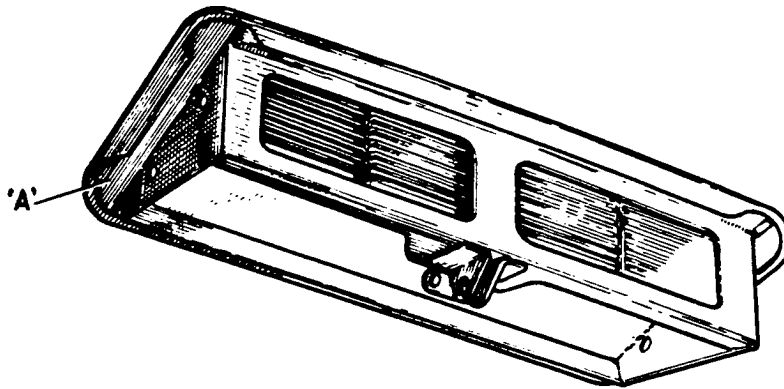

Fig. 1.
- (ii) Remove the two grilles, (shown in Fig.1) starting from the outer ends by drilling into the spot welds on the inside. The inner ends can then be easily removed with a small chisel.
Note: If upon examination of the sealing surface of the underside of the lid it is found there is a depression at each of the four corners, ('A' Fig.1), caused by the clinched-over flange, then opportunity should be taken to fill them in as described below, in order to make the surface smooth and flat, thus making a better water seal.